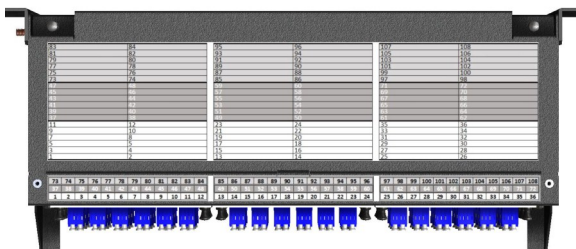

Fig. 3
5. Install the Port Assignment and Port Map Labels – Remove the label(s) from accessory bag, peel off the backing and apply to the top of the housing (Fig. 3).